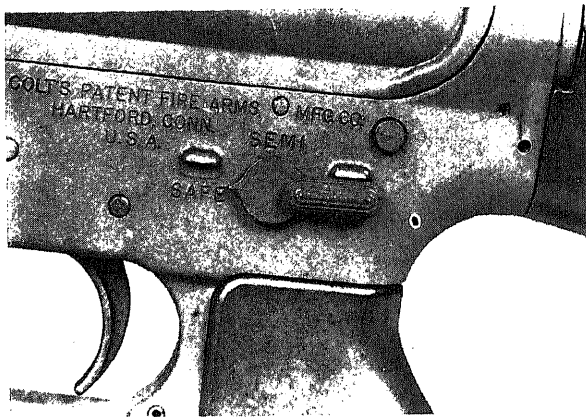

Figure 4-5.—Selector lever pointing to SAFE. 29.346
1. Attempt to point the selector lever toward SAFE, the position shown in figure 4-5. If the weapon is not cocked, the selector lever cannot be pointed toward SAFE. If that is the case, do not cock the weapon at this time; instead, go on to the next step in clearing.
The rifle will fire semiautomatically or automatically if you move the selector lever to the desired position. (See fig. 4-5.) With the selector lever in the semiautomatic position, the rifle will fire one round each time you pull the trigger. With the selector lever in the automatic position, the M16A1 rifle will continue to fire until the magazine is empty or you release the trigger. The M16A2, mentioned earlier, cannot fire fully automatically, but fires in short bursts of three rounds. When the rifle is fired in either SEMI or AUTO, the bolt will lock in the open position when the last round from the magazine has been fired.